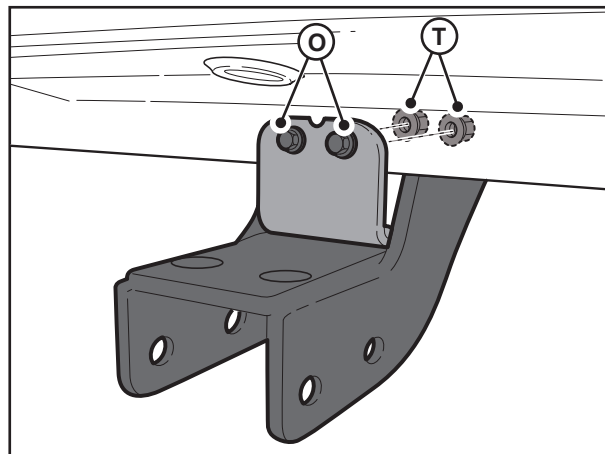

FIGURE 11
- Fit the 2-off M5 Bolts (**item O**) through the flange bracket and install the M5 Flange Nuts (**item T**) as shown in Figure 11.